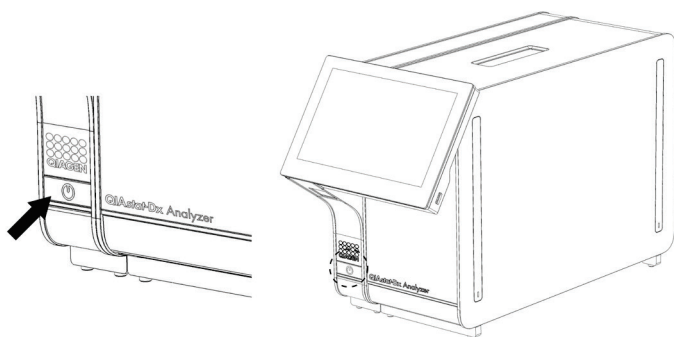

Figure 22. Pressing the ON/OFF button to start the instrument.
1. Press the ON/OFF button on the front of the QIAstat-Dx Analyzer 1.0 to start the unit (Figure 22).